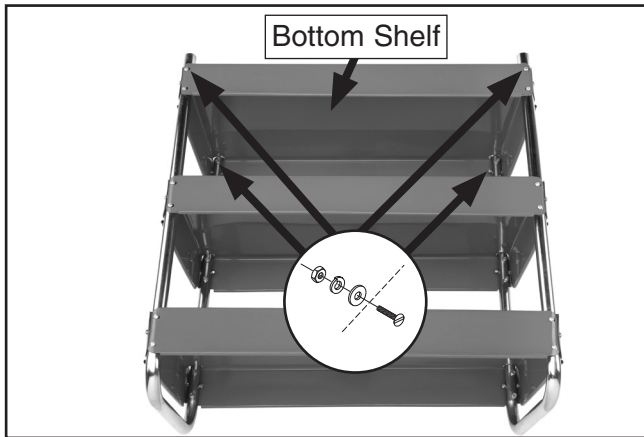

Figure 4. Bottom shelf installed.
4. Repeat **Step 3** to install the bottom shelf (see **Figure 4**).